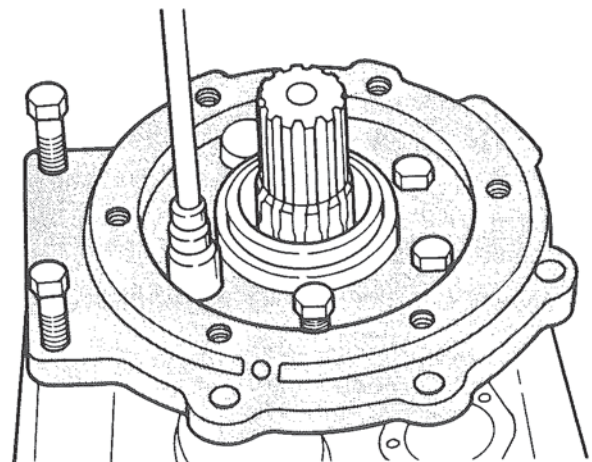

Figure 8. Removing Reduction Unit Adapter.
5. Remove the six (6) 7/16 - 14 x 1 lock bolts and the six (6) 7/16 lockwashers. Figure 8.